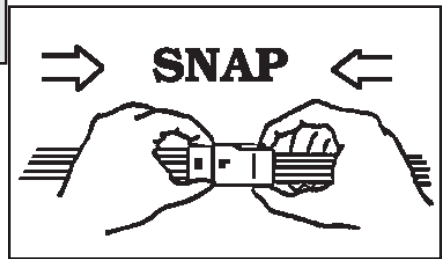

Figure 2
- b. When inserting, push mating connectors together until locking mechanisms are firmly locked together. **Figure 2**